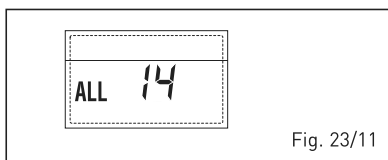

Fig. 23/11
- **ANOMALÍA DEL VENTILADOR “ALL 15” (fig. 23/12)**